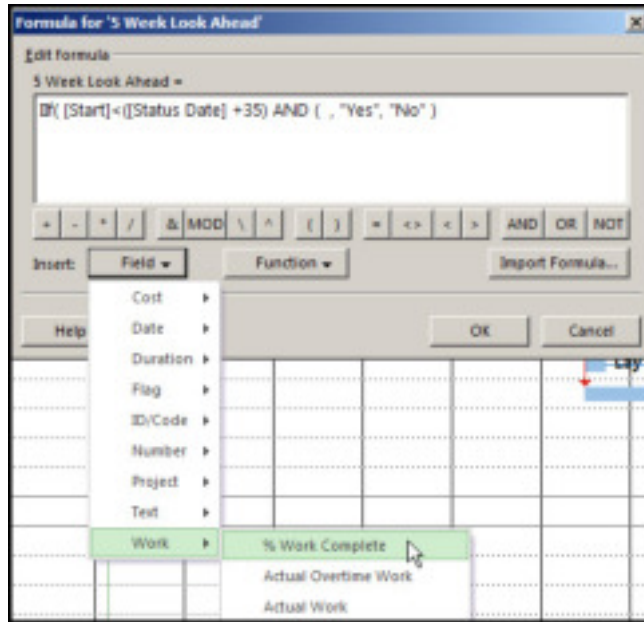

Figure 9
I. Here we want to capture all tasks that have a start date less than the status date plus 21-days, Figure 9.
- J. Also, in Figure 9, we insert the % Work Complete field into the formula. Only tasks that have a % complete less than 100, i.e. incomplete tasks, are captured. Completed tasks are filtered out. The final formula is in Figure 10, which will capture all tasks starting within **21-days** of the status date and all non-complete, i.e. in-progress tasks within this time period.